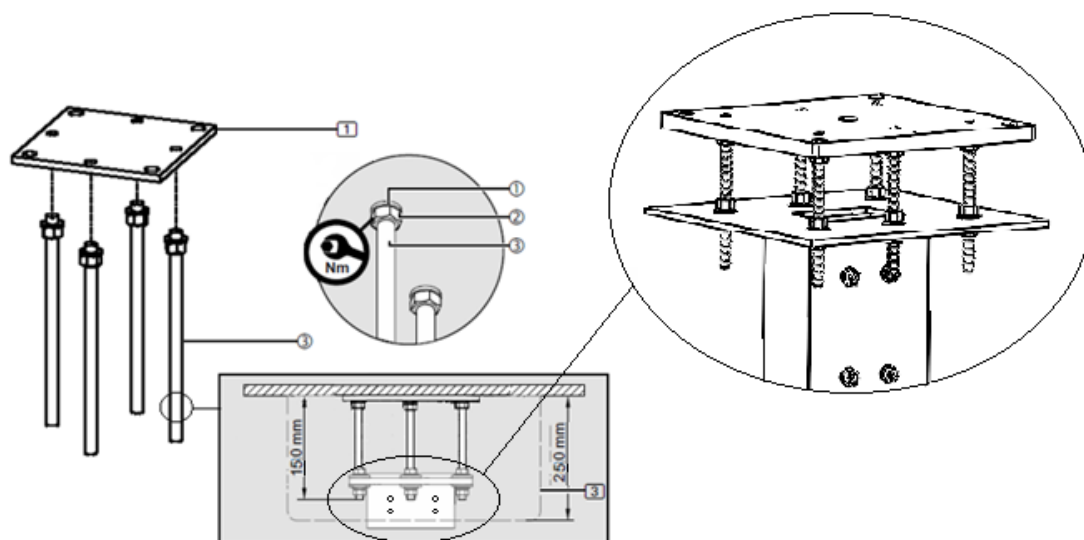

Fig. 5 Mounting of interface plate without false ceiling
- Thread 1 M10 hex nut (2) (2) each onto the M10 x 150 threaded bolts (3) (3) and then fit 1 spring washer (1) (1) each.
- The ceiling trim (3) is later mounted flush with the false ceiling. It covers the entire area of the connecting screws as shown in the detail in figure 5.